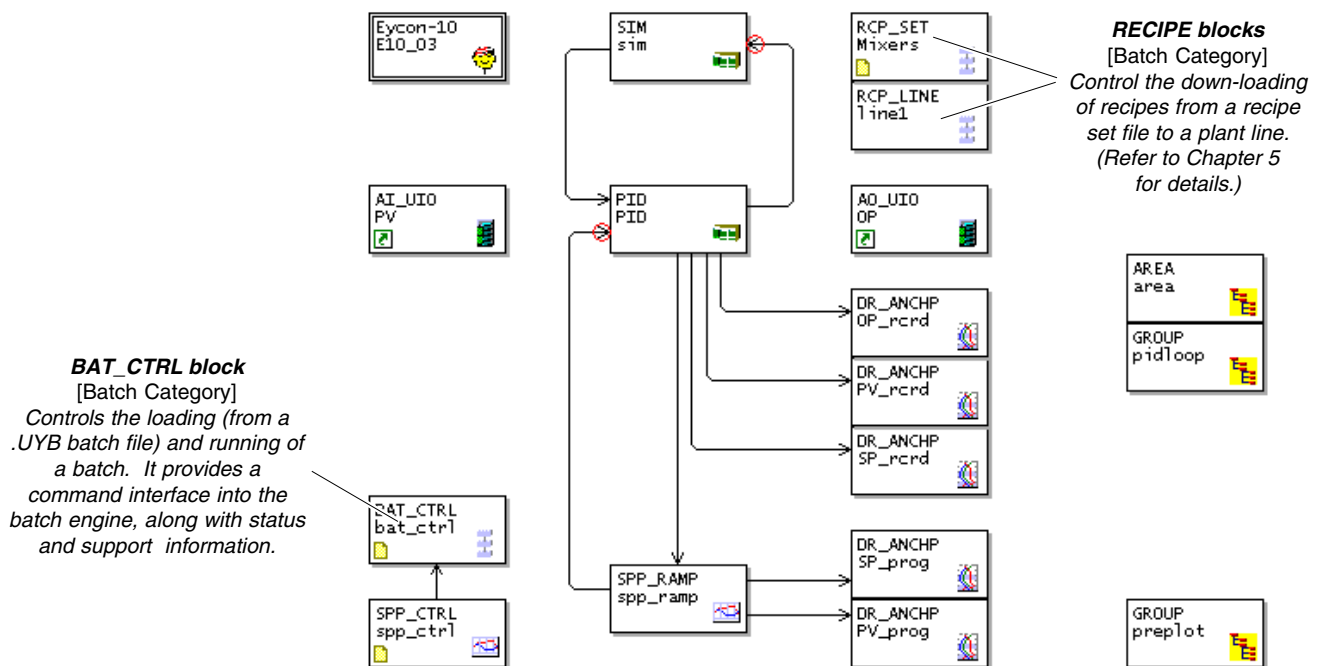

Figure 6-1 The program-driven batch strategy (simulated)
Figure 6-1 shows the (simulation) programmer strategy you created in Chapter 3, but with a Batch Control block and two recipe blocks, Recipe Set and Recipe Line, added to give the strategy some batch and recipe functionality.
- 1 In the LINTools Engineering Studio, locate the required blocks as shown in Figure 6-1. The quickest way to do this is to open up the existing simulated setpoint programmer strategy as your starting-point, by double-clicking its icon in Explorer view. Save the strategy under a new name, e.g. 'batch.dbf'.
<hr style="border-top: 1px dashed black;"/> <p>Note *(Block type) blockname.field.subfield format, referring to Figure 6-1. New wiring is listed below the dashed line.</p> <hr/>
You must also edit the Name fields in all blocks, according to Figure 6-1 if you wish.
*Note *(Block type) blockname.field.subfield format, referring to Figure 6-1*